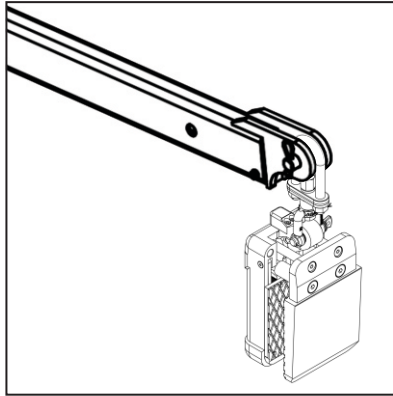

Figure 1.1
Step 1: Hook the Little Giant Lifter Automatic to a forklift boom (Figure 1.1).